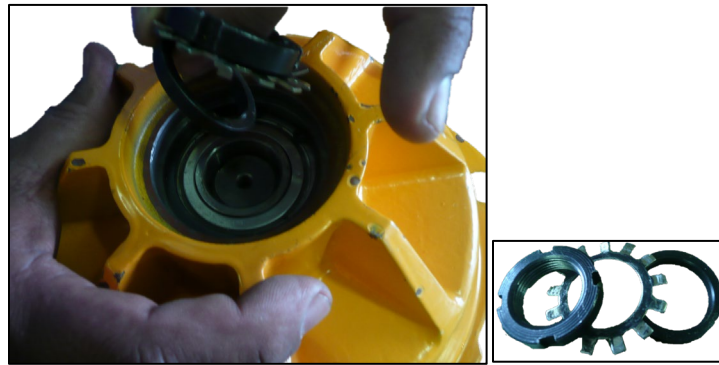

Figure 7.6.1
5. Remove the adjusting nut, lock washer and washer (see Figure 7.6.1).